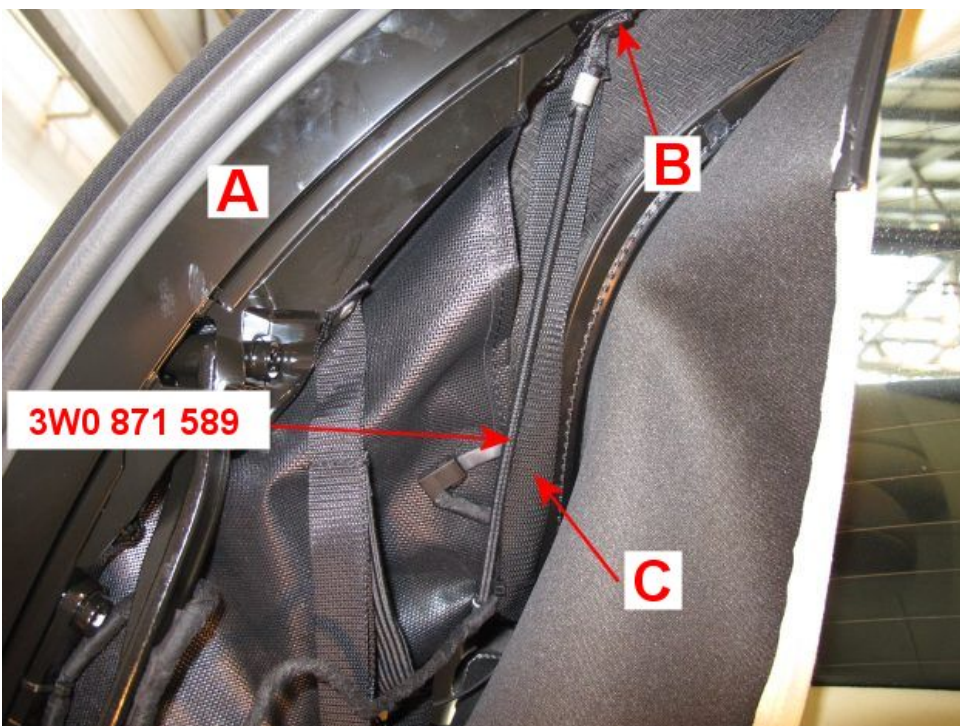

Figure 13
- At the rear bow (A) Re make connection using rivet WKN 070 058 at (B) adding the short end of new strap (part number 3W0 871 589) with the original strap (C) (Figure 13)